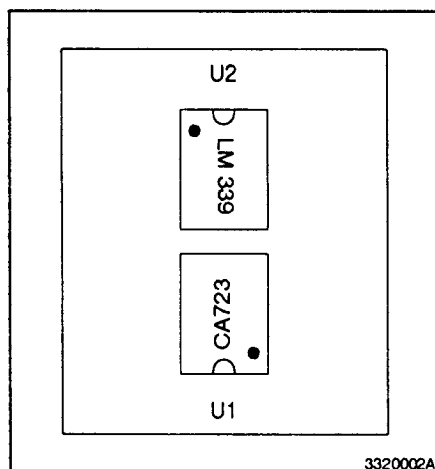

Fig. 2 IC chip placement on the circuit board
2. See Figure 2. Remove U1 (CA723) from its socket, taking care not to bend the pins.
3. Replace it with the new CA723 as shown in Figure 2.
5. Replace it with the new LM339 as shown in Figure 2.